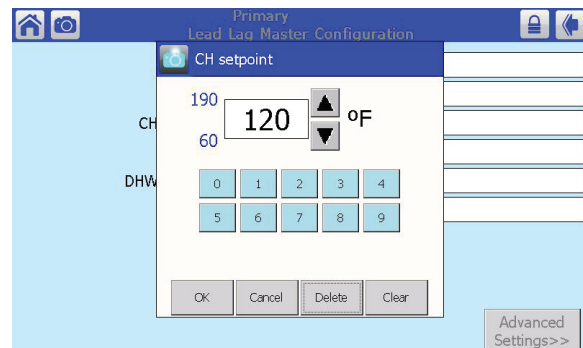

Fig. 41 - Numeric Entry Screen
- The process would be the same if you wanted to change a numerical value, except that system would present a numeric entry screen. See Fig. 41.